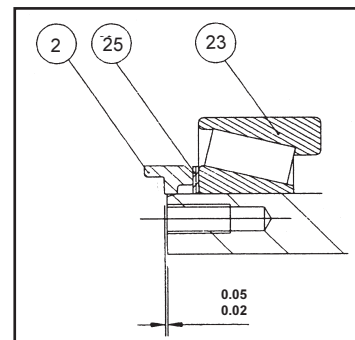

Figure 21
- a) Whenever the shafts are removed from the bearing carrier, the bearing shields (4) should be removed and all grease cleaned from shafts, bearings and bearing carrier. Press out lip seals (7) from bearing carrier and lip seals (1) from retainers.
- e) Fit shim pack (25) under bearing retainer and add or remove shims until retainer face protrudes 0.02 to 0.05mm (0.001" to 0.002") above unpainted areas of bearing carrier - see Figure 21.